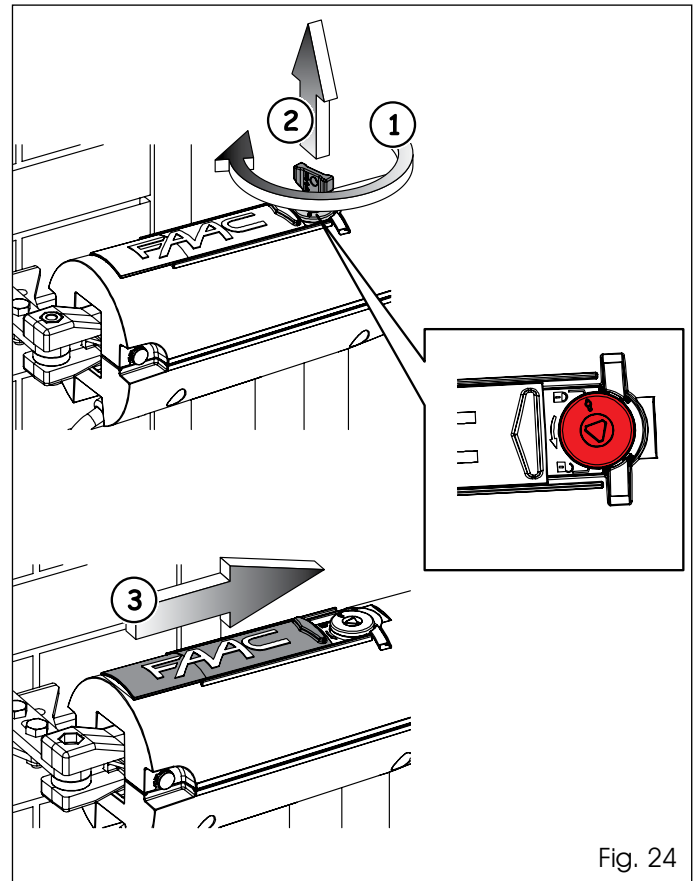

Fig. 24
2. Turn the release key clockwise until it stops, Fig. 24 Ref. 1, and remove the key, Fig. 24 Ref. 2. The locking position is indicated by a closed padlock.
3. Close the protective cap, Fig. 24 Ref. 3.